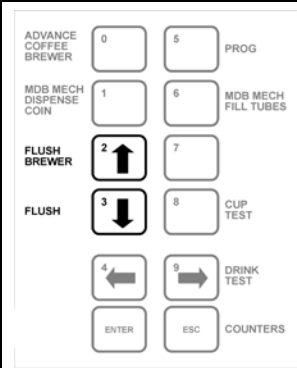

Figure 11b. Keypad Flush
Go to the internal keypad, press the square next to FLUSH to clean the whipper bowls. See Figure 11b.
In a Fresh Brew Machine, after step 3, press the square next to FLUSH BREWERS to clean the brewer and filter. See Figure 11b
1. Turn off the Power Switch and shut off the main water valve to the machine. Remove the plug from the hot water tank drain tube and empty the tank contents into the drain bucket. See Figure 11b.